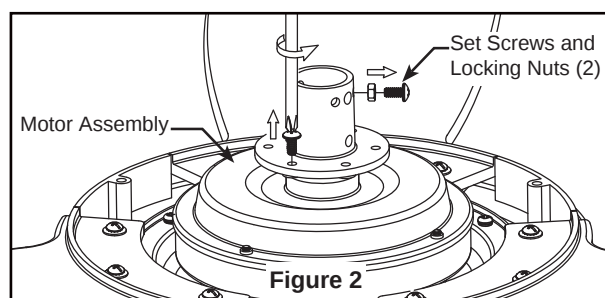

Figure 2
2. Remove the two set screws and locking nuts in the downrod support of the motor assembly and retain for reinstallation in Step 4 of the How to Assemble Your Ceiling Fan section, Page 8. Remove the six screws at the top of the motor assembly and retain them for next step. (Figure 2)
2. Remove the hairpin clip and clevis pin from the bottom of the downrod. Retain the pin and clip for reinstallation in Step 4. (Figure 2)